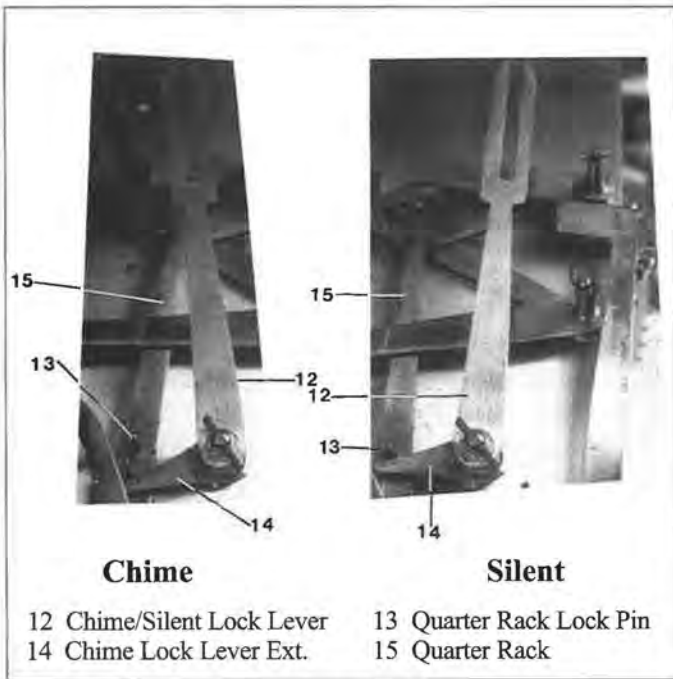

Figure 33.1. Chime/Silent Lock Lever
16. Install chime/silent lever (12) (Figure 33.1).